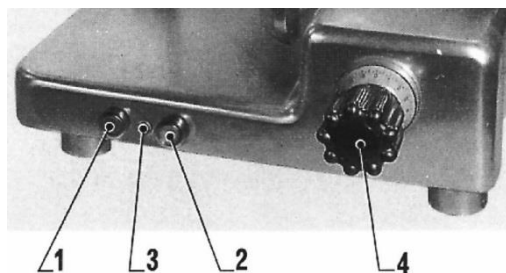

Fig. 13 – Controls and indicator light
4.3 FUNCTIONAL CHECK (Ref. fig. 13)